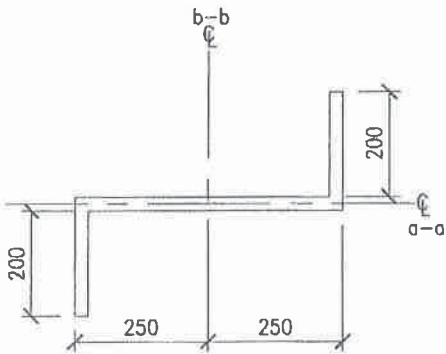

FIGURE A1
- A1. Figure A1 shows a steel cross-section fabricated from 25 mm G40.21 350W steel plates. Determine the section's moments of resistance about the two centroidal axes, a-a and b-b. Assume fully lateral restraint along the length.